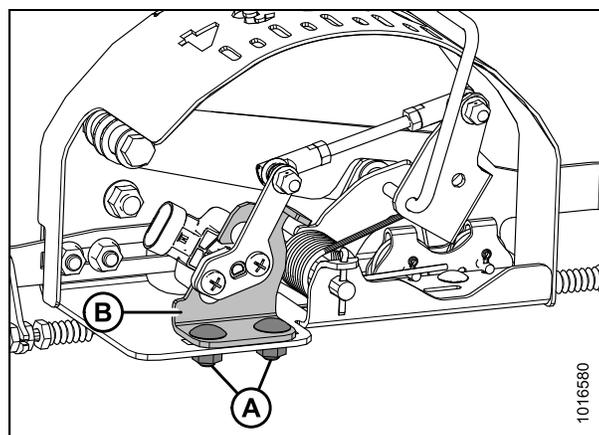

Figure 3.135: AHHC Sensor Assembly
- e. Rotate sensor (B) counterclockwise to increase high voltage limit and clockwise to decrease it.
- f. Tighten sensor mounting nuts (A).
- d. Loosen sensor mounting nuts (A).
4. If unable to get the voltage within the required range, loosen mounting bolts (A) and shift sensor assembly (B) inboard (right as shown in Figure 3.135: AHHC Sensor Assembly, page 107).